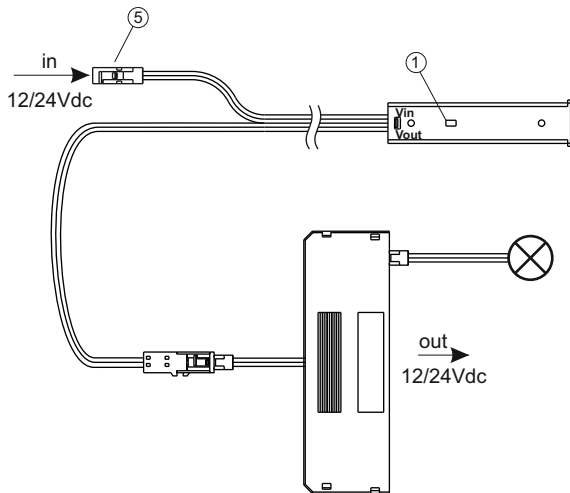
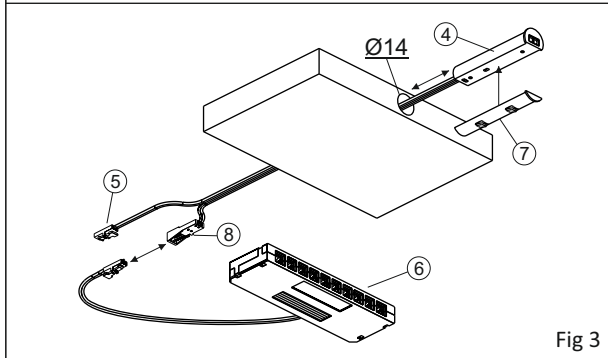
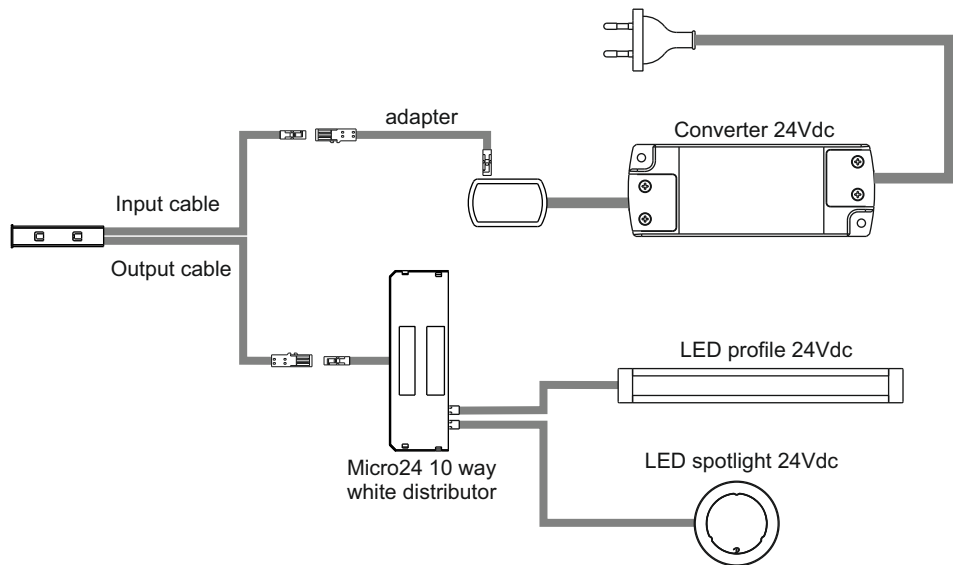

Fig 1
Fig 3
Fig. 6
- Alternatively, to install it flush with the panel (fig. 3), make a hole ($\varnothing 14$) of depth at least 63mm, disconnect the distributor (6) from the connector (8), pass the wire through the hole, apply the plastic fitting (7) to the sensor (4) and insert the assembly in the hole which has been just made.
When this has been done, reconnect the distributor (6) to the connector (8) marked "OUT" positioned on the shorter wire (fig. 1 and fig. 3).
- Connect the spotlights to the distributor (6), for a maximum of 36W if operating at 12Vdc or 72W if operating at 24Vdc.
- Connect the "in" connector (5) to a converter of 12Vdc (max. 36W) or 24Vdc (max. 72W) according to the type of load applied.
- For the connection of devices at 24Vdc, a set of cables which allows you to adapt the device to the Micro24 connection system (fig.6).